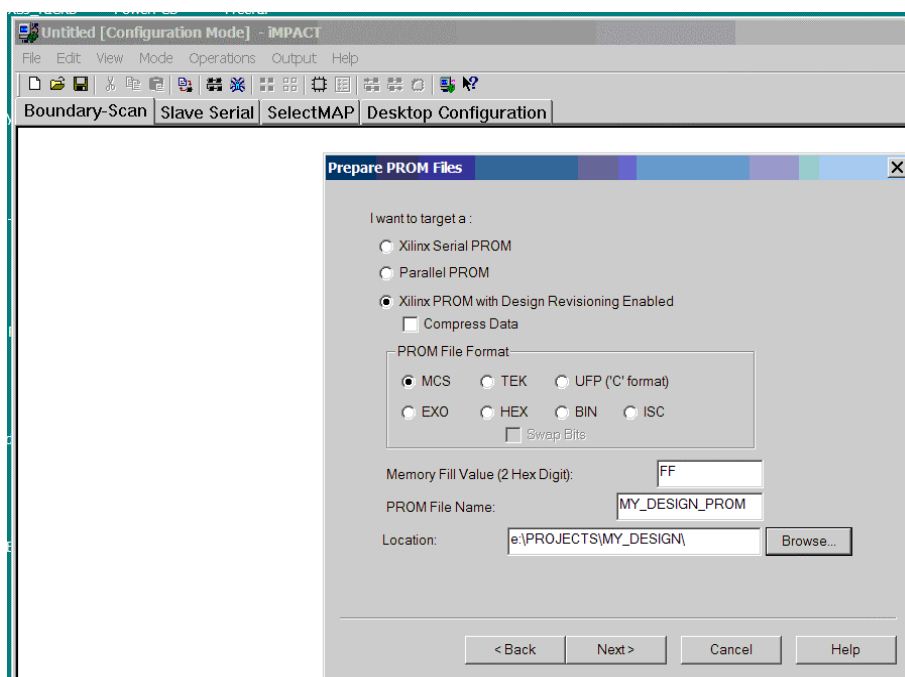

Figure B-3: Selecting a PROM with Design Revisioning Enabled
- Give the PROM File a name of your choice in the location of your choice as shown in Figure B-3.